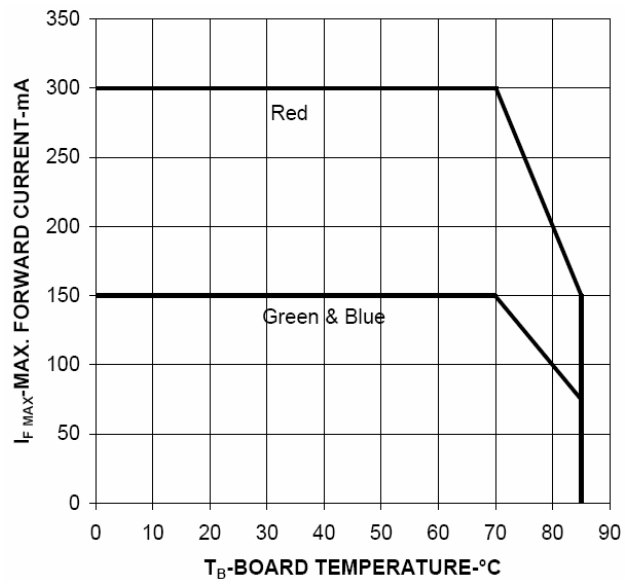

Figure 6. Maximum forward current vs board temperature T_B
2. Derate linearly as shown in Figure 6.